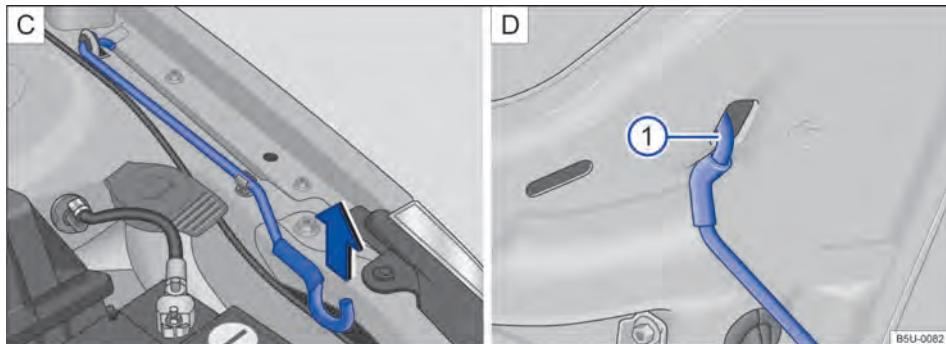

Fig. 186 **C** Bonnet stay. **D** Bonnet secured with the bonnet stay.
- Take the bonnet stay out of the holder in the direction of the arrow → Fig. 186 **C** and insert it in the bonnet opening → Fig. 186 **①** **D**.
- Take the bonnet stay out of the holder → Fig. 186 **①** **D** and insert it in the opening in the bonnet → Fig. 186 **C**.